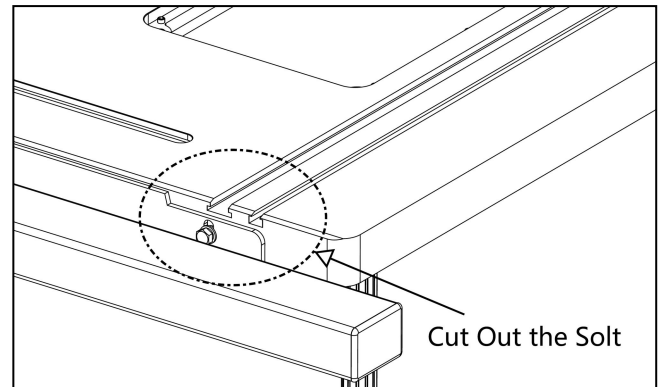

Fig. 14
4. If the fence rail of your table saw blocks the T-slots of the router table, you will have to modify the top of the rails, this entails making a cut-out that matches or exceeds the dimensions of the router table T-slot, as shown in Fig. 14.